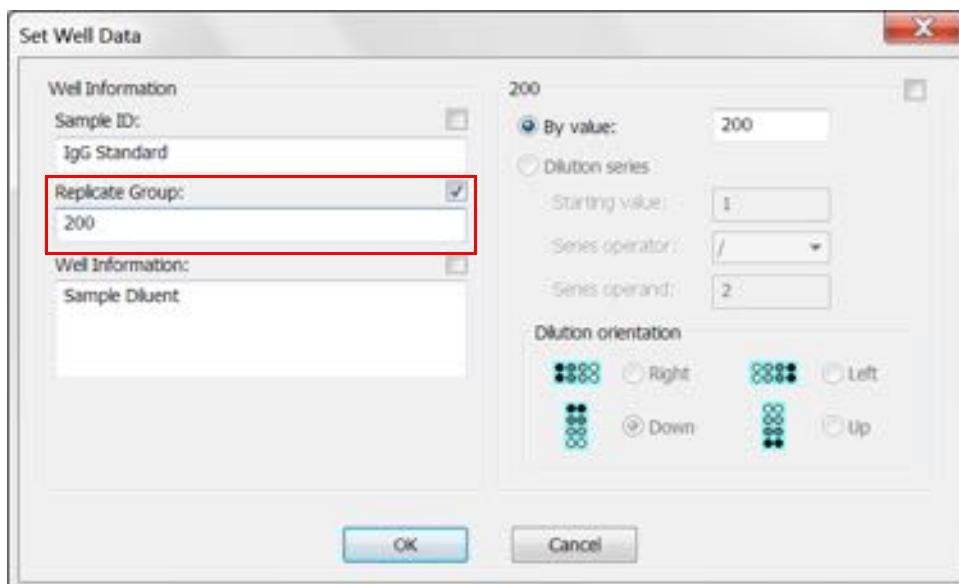

Figure 6-17: Add Replicate Group from the Sample Plate Map
2. In the **Set Well Data** dialog box (see Figure 6-17), enter a name in the **Replicate Group** box and click **OK**.